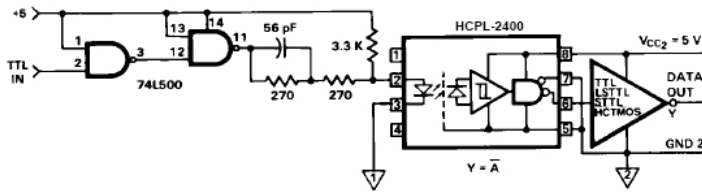

Figure 13. Recommended 20 MBd HCPL-2400/30 interface circuit.
- The typical data shown is indicative of what can be expected using the application circuit in Figure 13.
- This specification simulates the worst case operating conditions of the HCPL-2400 over the recommended operating temperature and  $V_{CC}$  range with the suggested application circuit of Figure 13.
A recommended LED drive circuit is shown in Figure 13. This circuit utilizes several techniques to minimize the total pulse-width distortion at the output of the optocoupler. By using two inverting TTL gates connected in series, the inherent pulse-width distortion of each gate cancels the distortion of the other gate. For best results, the two series-connected gates should be from the same package.
The circuit in Figure 13 also uses techniques known as prebias and peaking to enhance the performance of the optocoupler LED. Prebias is a small forward voltage applied to the LED when the LED is off. This small prebias voltage partially charges the junction capacitance of the LED, allowing the LED to turn on more quickly. The speed of the LED is further increased by applying momentary current peaks to the LED during the turn-on and turn-off transitions of the drive current. These peak currents help to charge and discharge the capacitances of the LED more quickly, shortening the time required for the LED to turn on and off.